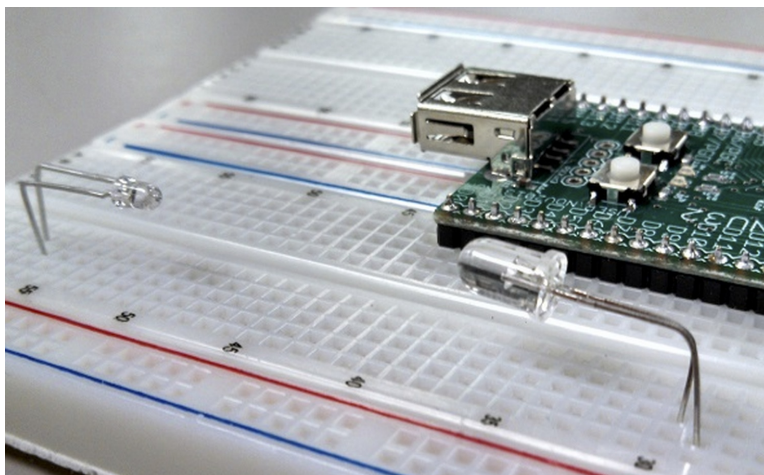

Figure 12.3: The phototransistor (left) and LED (right) pointed toward each other.
2. **Choose R .** Wire up the circuit as shown in Figure 12.1, except for the connection from the LED to OC1. The LED and phototransistor should be pointing toward each other, with approximately one inch separation, as shown in Figure 12.3. Now choose R to be as small as possible while ensuring that the voltage V_{out} at the phototransistor emitter is close to 3 V when the LED anode is connected to 3.3 V (maximum LED brightness) and close to 0 V when the LED anode is disconnected (the LED is off). (Something in the $10\ \text{k}\Omega$ range may work, but use a smaller resistance if you can still get the same voltage swing.) Record your value of R . Now connect the anode of the LED to OC1 for the rest of the project.